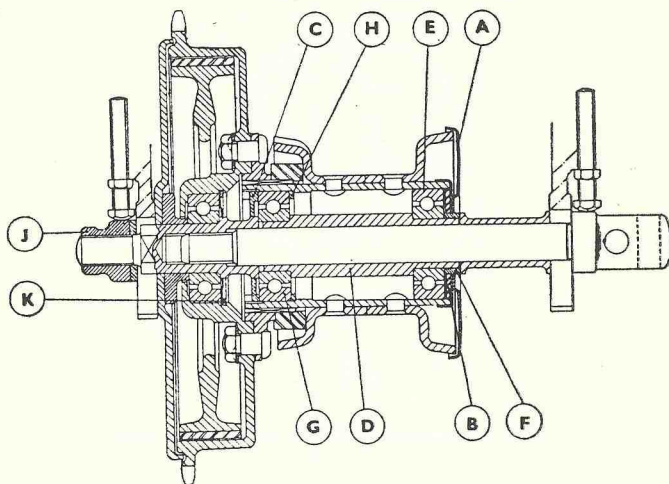

Fig. 31. Section through Rear Hub.
The hub is fitted with two ball races which are a light press fit on the hollow spindle and in the hub shell. Remove the dust cap (A) Fig. 31, and felt washer (B). Unscrew the ball race retaining ring (C). This ring has a left-hand thread and therefore unscrews in a clockwise direction.
After removal of the rear wheel the brake drum is held in position by the nut (J) Fig. 31, and by the nut securing the brake anchor strap. To remove the drum first disconnect the rear chain and brake rod, then remove the nut (J) and the nut retaining the torque arm to the brake plate. The brake drum can then be pulled away from the brake plate and removed from the machine. Pivot the brake plate support strap on the cam lever boss so that the brake plate is free to be withdrawn from the fork leg.